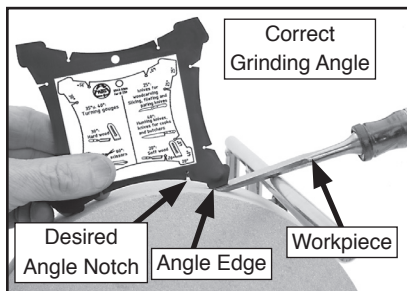

Figure 12. Angle guide usage.
3. Place the angle guide on the wheel with the desired angle notch (found in **Step 2**) against the wheel and adjacent to the universal support (**Figure 12**).
4. Adjust the positioning of the tool and the universal support height as necessary so that the sharpened edge of the tool is flat against both the grinding wheel and the angle edge on the angle guide as shown in **Figure 12**. For precision grinding attachments, see **Accessories on Page 17**.